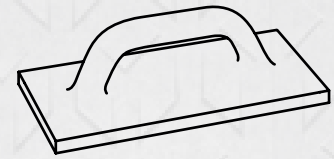

Fig. 2. Polyurethane Float
- The total number of standoffs required per panel is determined by the final dimensions of your panel. Use the illustration shown in Fig.2 to determine the minimum number of standoffs required.